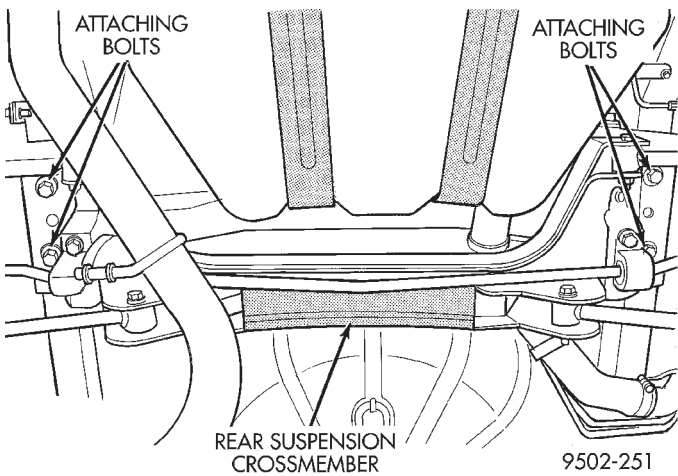

Fig. 7 Suspension Crossmember Attachment To Frame Rails
(8) Remove the nuts and bolts on each side of vehicle attaching the 4 lateral links to the knuckles.
(9) Remove the 4 bolts attaching the rear suspension crossmember to rear frame rails (Fig. 7).